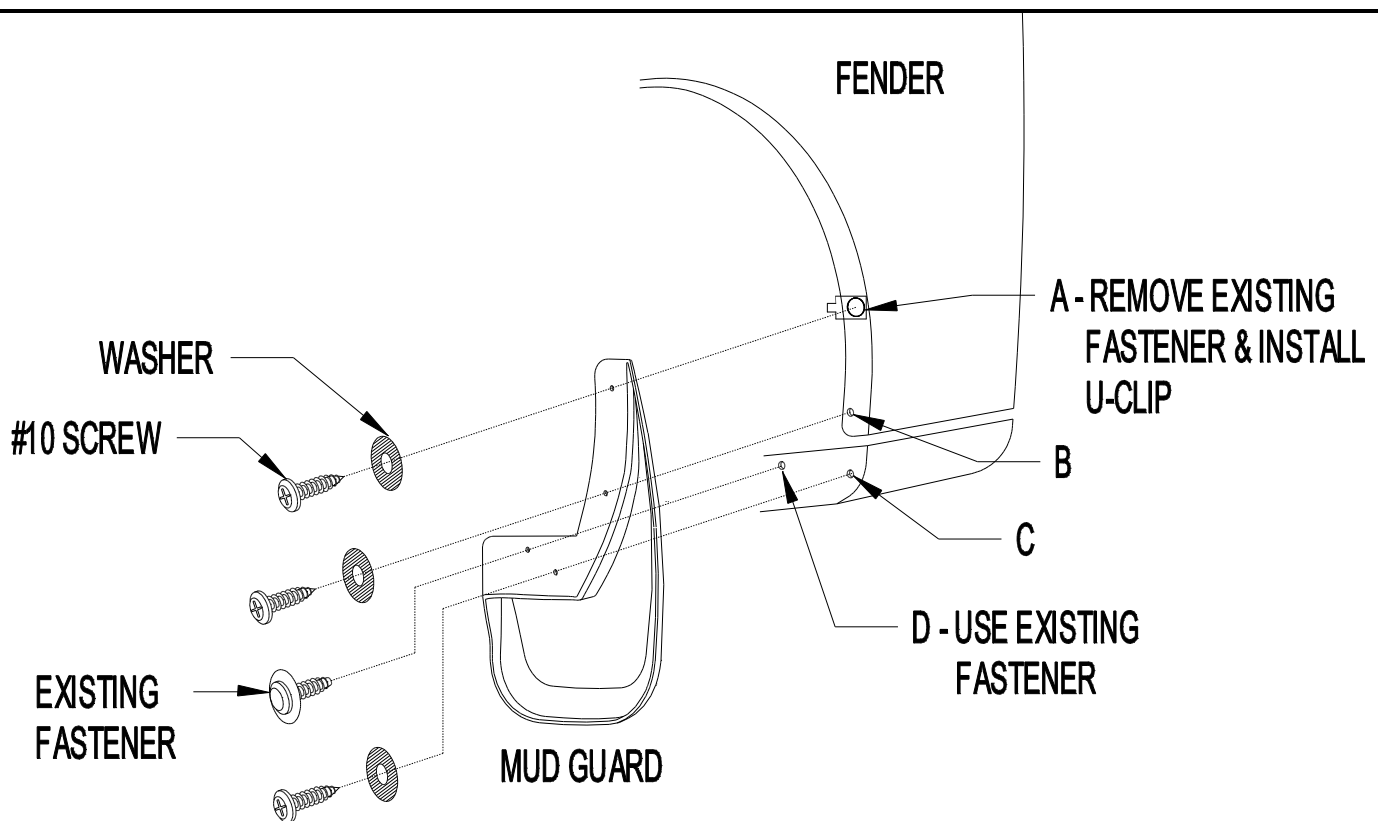

Figure 1
1. Remove existing fastener from location A and install a U-clip over sheet metal and align with existing hole (Figure 1).